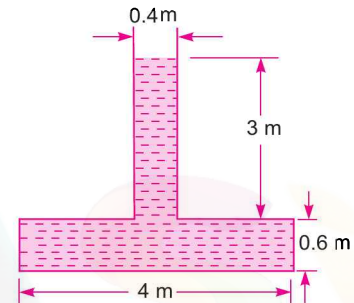

Fig. 3.17
**Problem 3.13** Fig. 3.17 shows a tank full of water. Find :